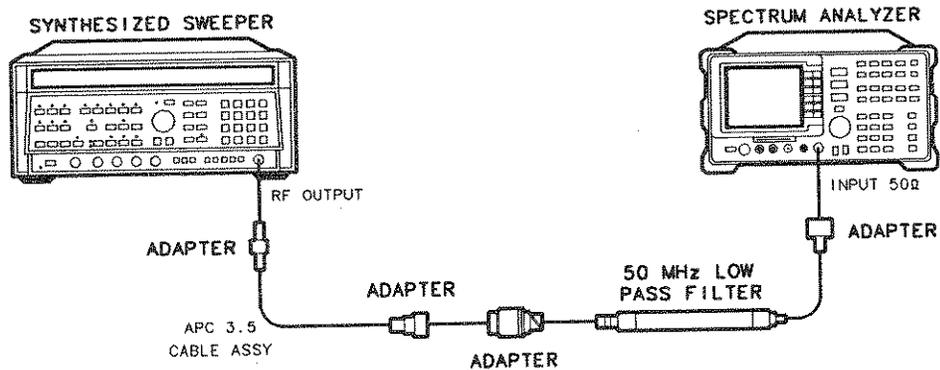

Figure 4-19. Second Harmonic Distortion Test Setup
2. Connect the equipment as shown in Figure 4-19. *Option 026:* Use the APC to Type N adapter.